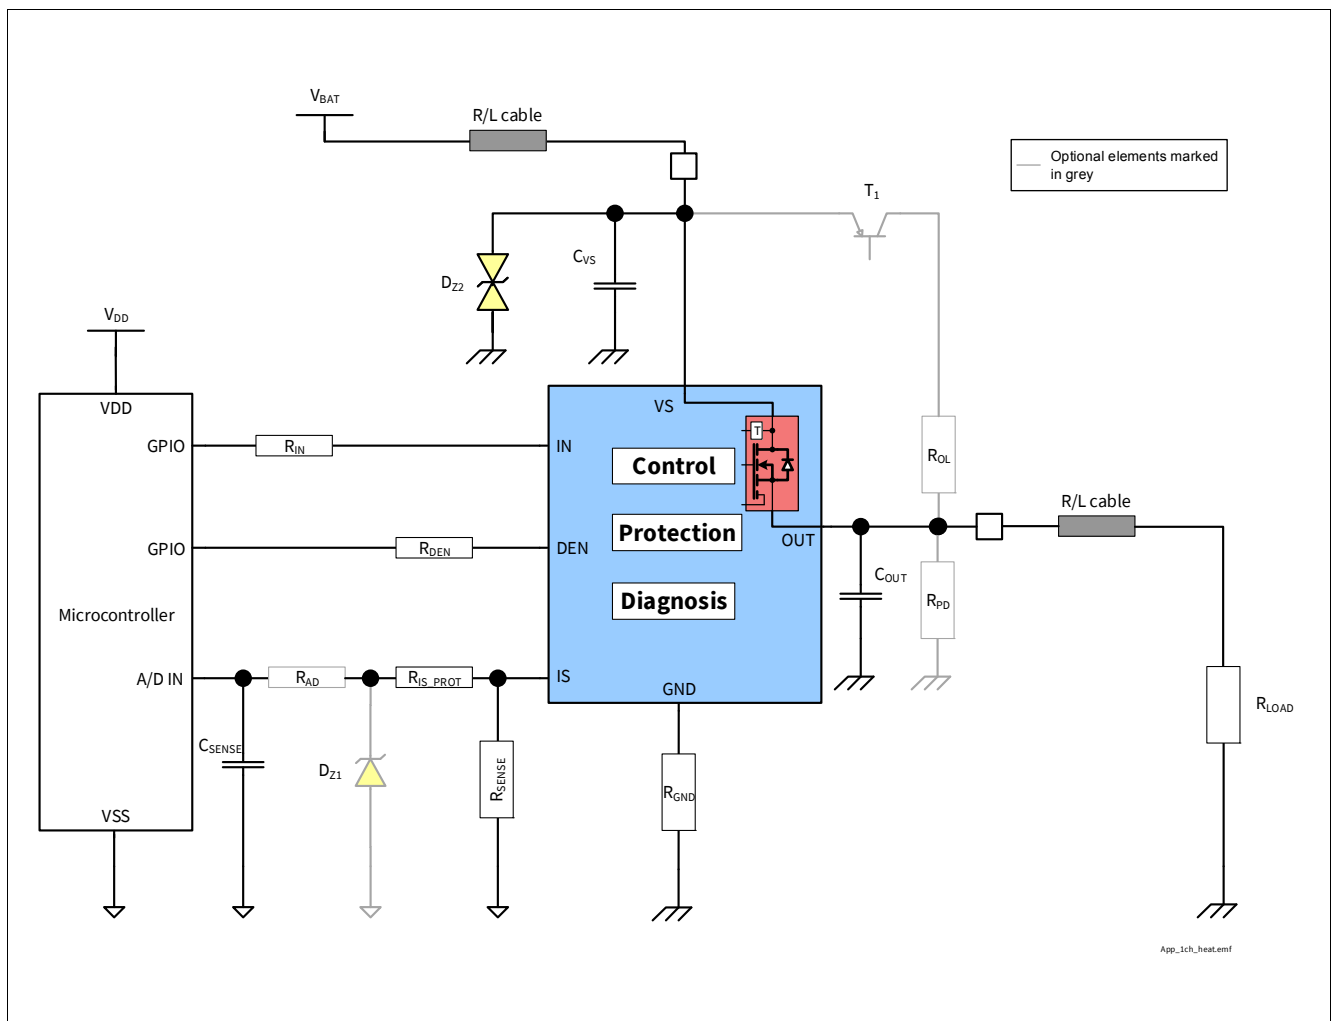

Figure 37 BTS7002-1EPP Application Diagram
1.01, 2018-06-14	<p>Page numbering corrected</p> <p>Figure 1, Figure 29, Figure 37 updated</p>